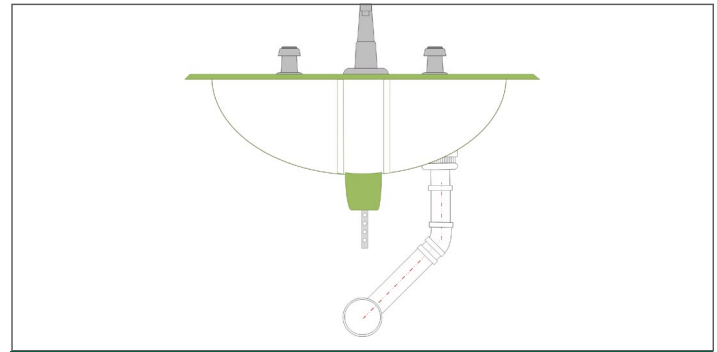

Figure 8.
- Pop-up drainage linkage could interfere with the installation of the AAV. Offset drain waste to avoid any conflict. See Figure 8 & 9